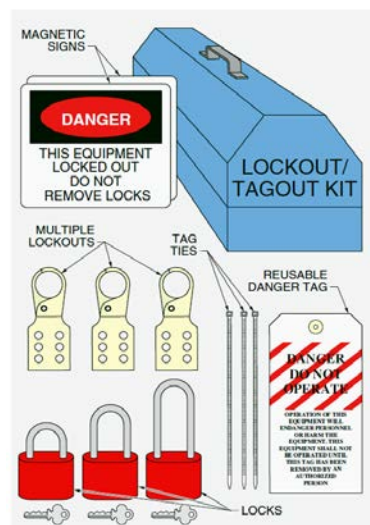

Figure 4: Lockout/Tagout Kit
- If any corrective or preventative procedures are required on the HVAC system, ensure that **power** to the HVAC unit is **shut off and remains off** until personnel are safely clear of moving parts. Always follow lockout/tagout procedures as per your authority (figure 4).